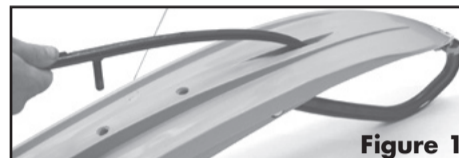

Figure 1
- Insert the front end of the runner into the runner opening or indentation provided in the ski. (figure 1) Swing the rear end of the runner to align the runner bolts with the bolt holes in the ski. Then insert the bolts through the ski. Some pressure may be required. (figure 2)
- 1) Place the 9975 series runner in the 3 bolt holes on the bottom of the ski. The fourth bolt will contact the ski at the point where the additional bolt hole will need to be drilled. (Figure 1) At this point using a marker place a mark on the keel at the center of the fourth bolt. (Figure 2) Or you can measure from the center of the bolt nearest the rear of the ski 2.800" to determine the new bolt hole placement. (Figure 3)